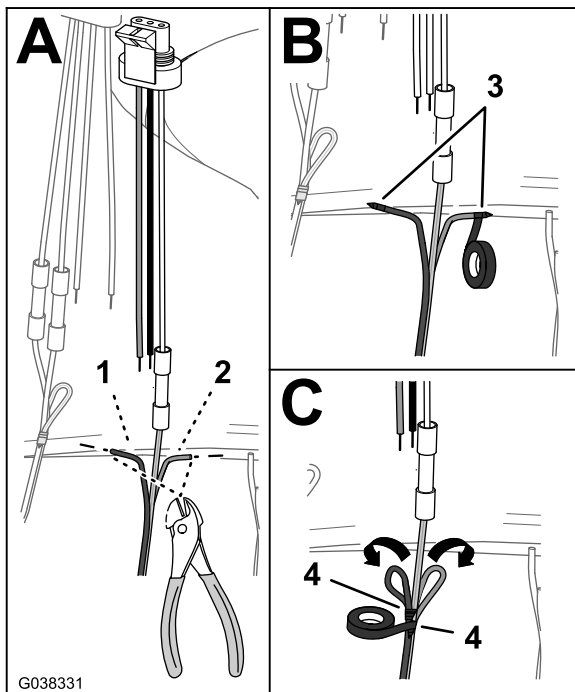

Figure 44
- A. Cut the conductors of the brown wire and blue wire flush with the insulation (Figure 44).
- B. Wrap the end of the brown wire with electrical tape to seal the wire (Figure 44).
- C. Wrap the end of the blue wire with electrical tape to seal the wire (Figure 44).
- D. Fold the brown wire and blue wire to the yellow and green wire and wrap the 3 wires together with the electrical tape (Figure 44).